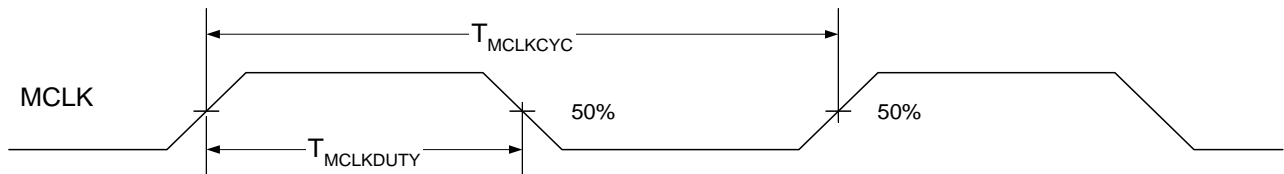

Figure 4.6. MCLK Timing
3. Refer to Figure 4.6 on the next page.